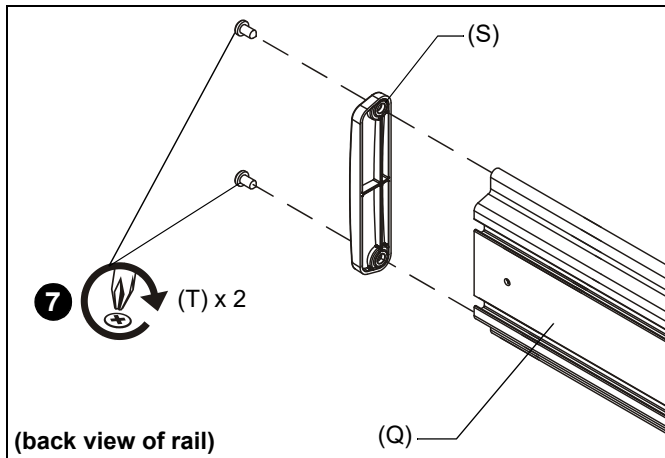

Figure 20
7. Attach one end cap (S) with two 1/4-20 x 1/2" Phillips head screws (T) to end of mounting rail (Q). (See Figure 20)